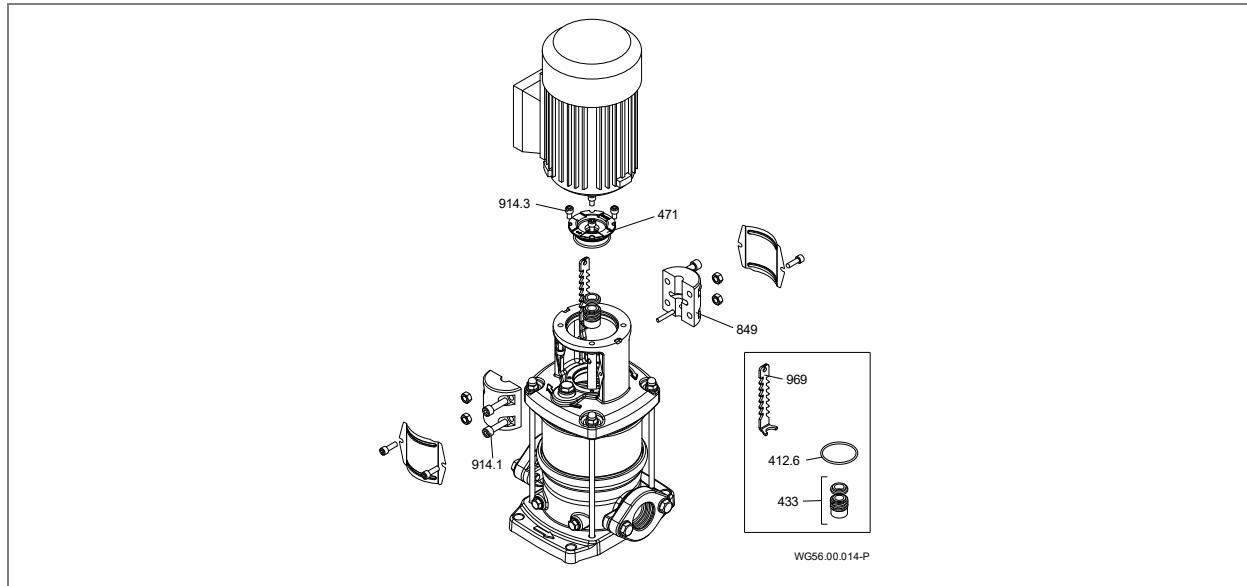

Fig. 16
See "Fig. 16" on page 31
- Observe figure 16.
- 1. Position the O-ring (412.6) and the counter ring of the mechanical seal (433) in the discharge cover (471).
- 2. Slide the spacer sleeve (523.2) onto the shaft (211).
- 3. Assemble the rotating unit of the mechanical seal (433) on the shaft (211).
- 4. Slide the discharge cover (471) over the shaft (211) and push it into the drive lantern (161).